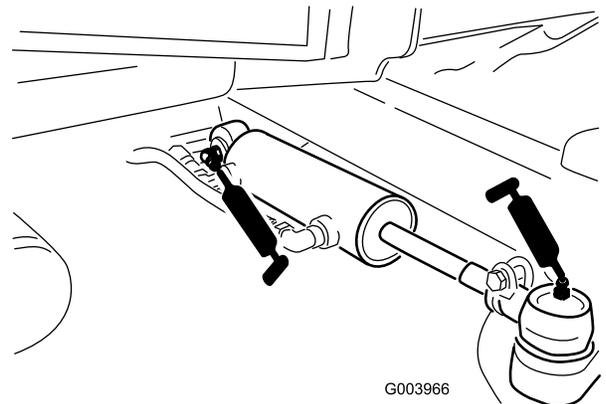

Figure 49
- Steering cylinder ball joints (2) (Figure 49)